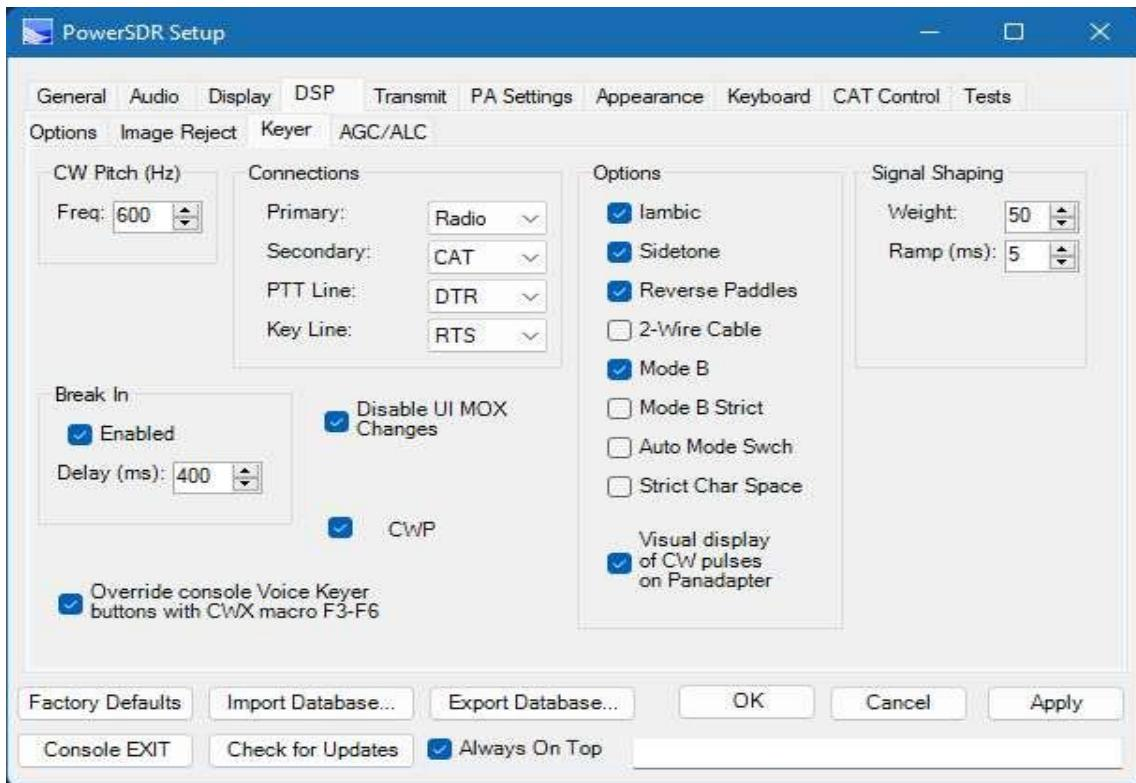

Figure 39: Setup-> DSP-> Keyer
If using PowerSDR's internal keyer, open the Setup-> DSP -> Keyer shown in Figure 39 below. Several of the controls in this form are also available in the **Mode Specific Controls – CW (8)** section on the Front Console.
1. Connect your paddles or keyer to the Key jack on the back panel (see page 9) and on the Keyer Sub-Tab in the **Connections** section, set **Primary** to **Radio** (see Figure 39 above).
- Connect your paddles or keyer to the Key jack on the back panel (see page 9) and set the **Primary Connection** to **Radio** (see Figure 39 above)
- In the **Options** section, leave **Iambic** unchecked. If your external keyer does not seem to be keying, try checking **Rev. Paddle**. If using an external keyer with a side tone, check the **Disable Monitor (8)** check box to avoid hearing the side tone from the internal keyer. The **Break In** option allows the radio to start transmitting simply with detection of keyer input. Set **Delay** to the amount of time between key up and when the radio will switch back to receive.
- If not using **Break In**, click **MOX (16)** on the Front Console and begin transmitting using your external keyer. If using **Break In**, simply begin transmitting to key the radio. If **Disable Monitor** is unchecked, you should hear the side tone. Verify with the **TX Meter (4A)** set TX2 to **COMBO** that there is forward power.
- You are now ready to begin a QSO. If a 50 ohm dummy load was connected, connect an antenna in its place. Tune to the desired frequency using one of the methods outlined in the Tuning Methods section above. Select either **CWL** or **CWU (6)** and proceed with the QSO.